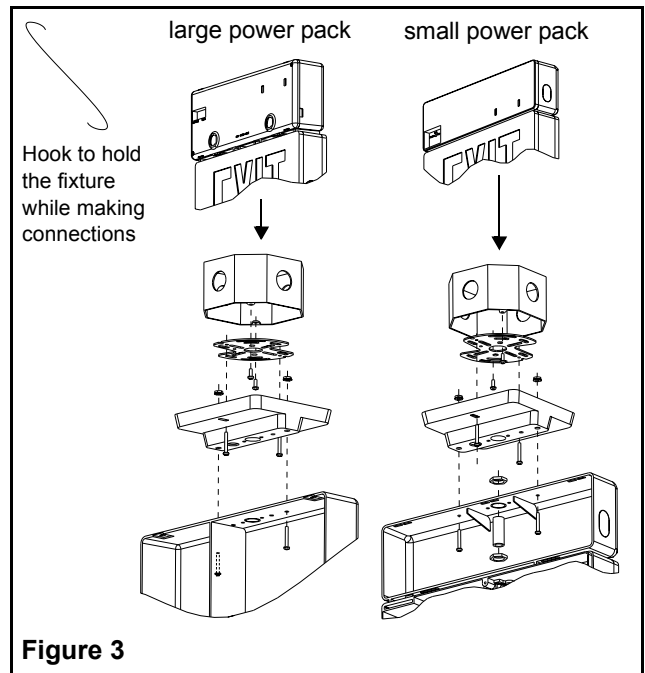

Figure 3
- Depending on the model, there are two possible power pack housings with this unit, with or without heads (see fig. 3).
Large power pack — Use the two #8-32 x 3/4" screws with lock nuts to mount the canopy (see fig. 3).
Small power pack — Use a threaded nipple and two hexagonal nuts as well as two #6-32 x 1" screws with lock nuts to mount the canopy (see fig. 3).